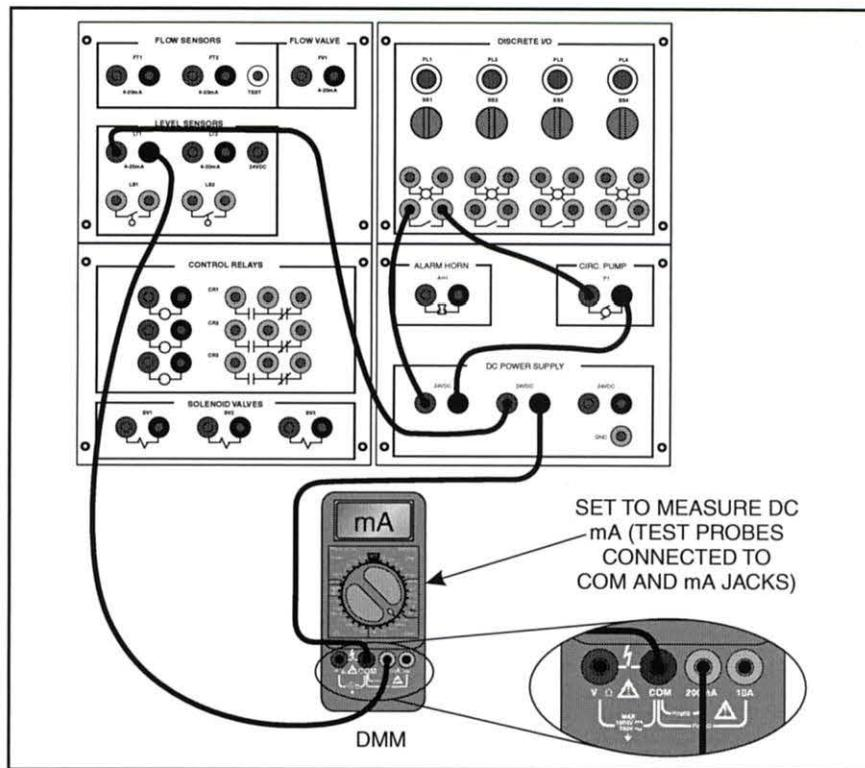

Figure 41. Circuit to Measure Output of Head Pressure Sensor
- G. Connect the circuit shown in figure 41.